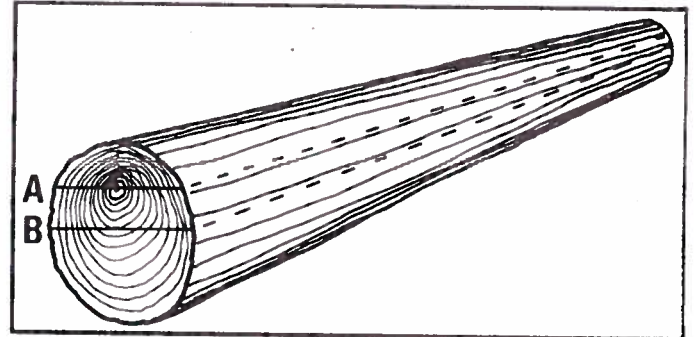
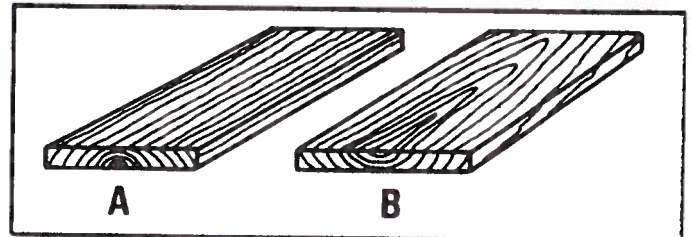

Fig. 36
Fig. 37
On tapered logs where the heart center is way off average center as shown in Fig. 36, you will be able to produce a larger number of boards by milling to the average center (B) of the log rather than to the heart (A) Fig. 36. However, the result will be that many of the boards will have cross grain and will be of lower grade. For example a board milled to the heart center has straight grain, as shown at (A) Fig. 37, while a board milled to an average center cuts across fibers, resulting in cross grain, as shown at (B) Fig. 37.